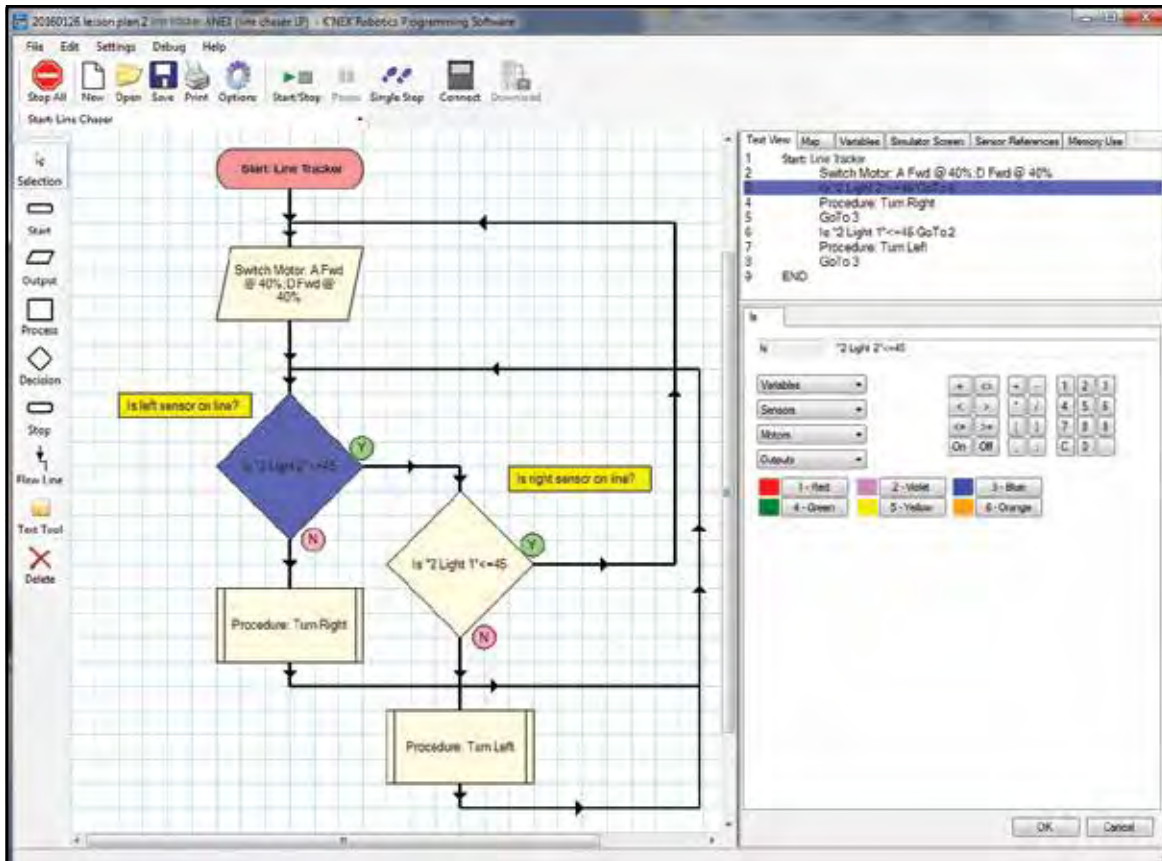

Figure 4: Main Program.
*NOTE: See Figure 4 Main Program, if you are unsure of how to complete this task.*
A copy of the Line Tracker program developed at K’NEX is provided in Figure 4. The program has been provided to allow you to get your model operational. Test your model, troubleshoot its performance, and make changes to your procedures and program as necessary to improve the model’s operation. Record any changes you make and the reason for those changes on Student Response Sheet 2 – Lesson 2.
**Challenge** – In the Main program shown in Figure 4, flow lines that emanate from the Turn Right and Turn Left procedures loop back to the first Decision symbol. In contrast, the flow line from the second Decision symbol loops back to the Output symbol.